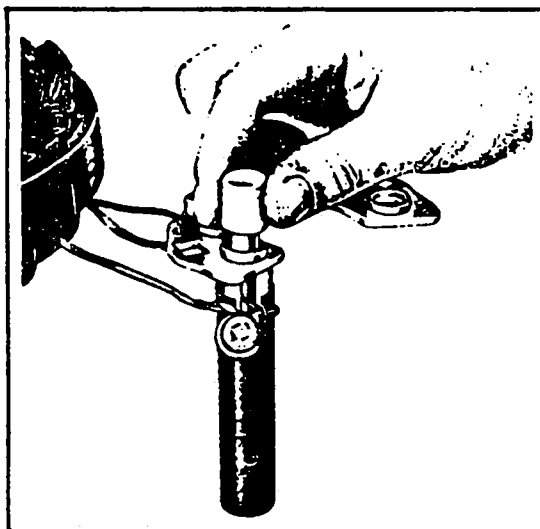

Figure 11-22. Removal of Rectifier
d. Remove the nuts, lock washers, flat washers and insulators from the output and auxiliary terminal studs. Note carefully the correct assembly of the insulator washers and bushings. Using the special tools shown in Figure 11-22, support the end head and press out the three negative rectifiers. The end head can now be separated from the stator assembly.